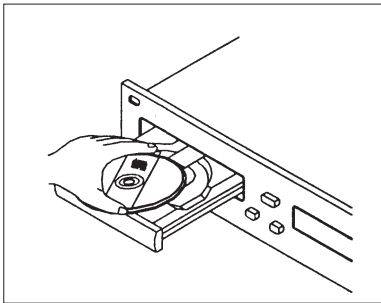
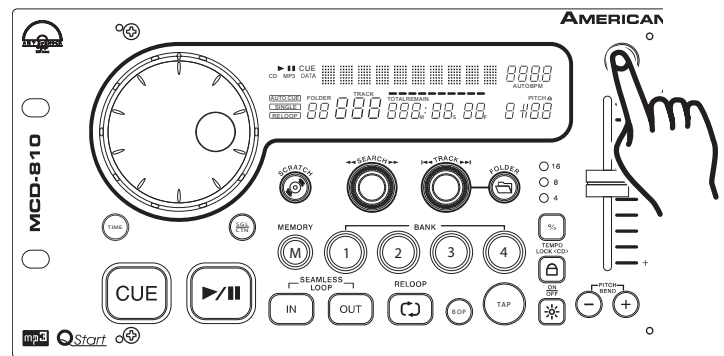

Figure 6: When loading a disc always hold the disc by its edges and load the disc label side up.
Figure 7: Hold down the Eject Button to remove a disc.
The MCD-810™ can only play 3 and 5 inch CDs. Odd shaped, and oval CDs are not compatible. When loading a CD into the transport tray, always hold the disc by its edge (see Figure 6). Load the disc label side up and place it in the disc tray. Never touch the signal surface (the glossy side). To remove a disc from the tray press the *EJECT BUTTON* (4), see Figure 7.